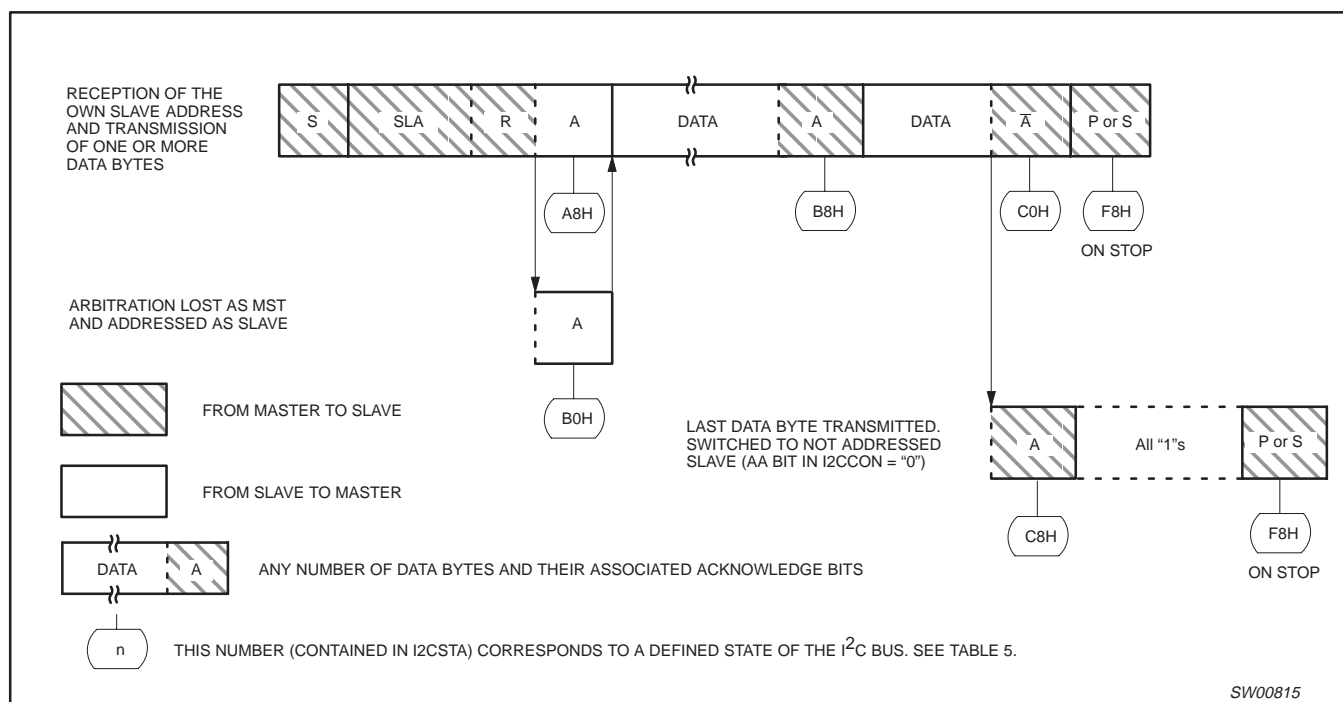

Figure 5. Format and states of the slave transmitter mode
When SIO is in the addressed slave transmitter mode, state C8H will be entered after the last serial is transmitted (see Figure 5). When SI is cleared, enters the not addressed slave receiver mode, and the SDA line remains at a HIGH level. In state C8H, the AA flag can be set again for future address recognition.
**Slave Transmitter Mode:** In the slave transmitter mode, a number of data bytes are transmitted to a master receiver (see Figure 5). Data transfer is initialized as in the slave receiver mode. When I2CADR and I2CCON have been initialized, SIO waits until it is addressed by its own slave address followed by the data direction bit which must be "1" (R) for SIO to operate in the slave transmitter mode. After its own slave address and the R bit have been received, the serial interrupt flag (SI) is set and a valid status code can be read from I2CSTA. This status code is used to vector to an interrupt service routine, and the appropriate action to be taken for each of these status codes is detailed in Table 5. The slave transmitter mode may also be entered if arbitration is lost while SIO is in the master mode (see state B0H).